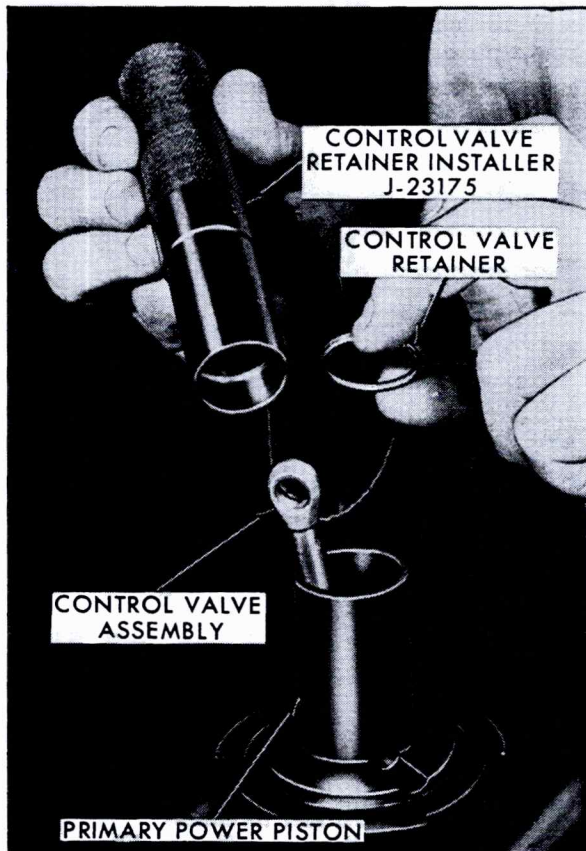

Fig. 5-44 Installing Retainer Ring
5. Place the I.D. of the floating control valve retainer on the O.D. of floating control valve retainer installer J-23175. Place over the push rod so that the closed side of the retainer seats on the floating control valve. With Installer, J-23175, manually press the retainer and floating control valve assembly to seat in the primary power piston tube, Fig. 5-44.